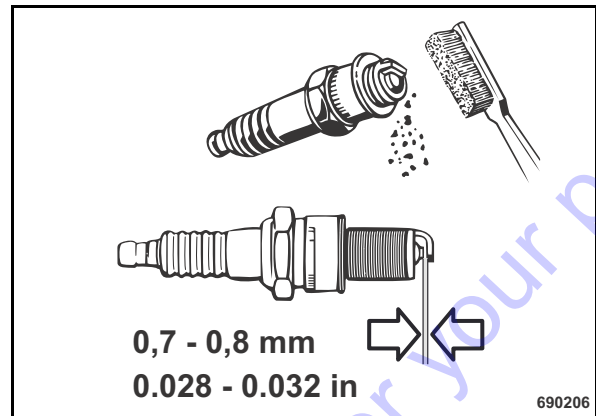

Fig. 54
- Check the spark plug (Fig. 54) visually and clean it if necessary.